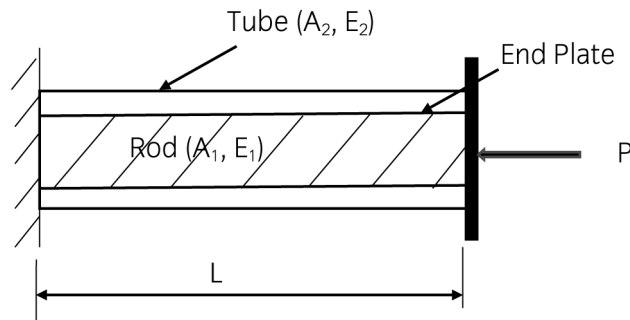

Figure Q1(a)
- 1 a) A rod of length L , cross sectional area A_1 and modulus of elasticity E_1 has been placed inside a tube of the same length L but of cross sectional area A_2 and modulus of elasticity E_2 as shown in Figure Q1 (a).